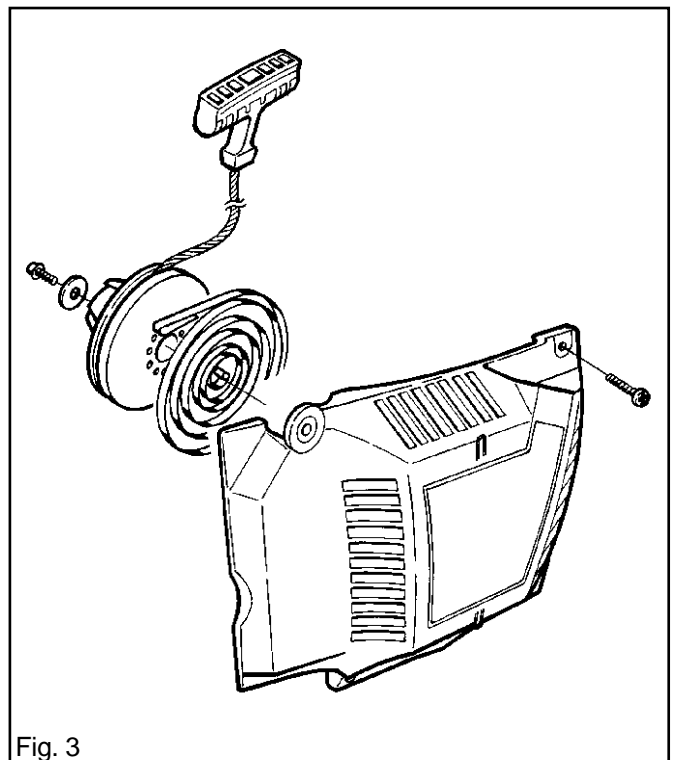

Fig. 3
4. Remove the central bolt and take out the washer and cord pulley. See fig. 3.
5. Fit the washer and central bolt. See fig. 3. Tighten the bolt to 4 Nm.